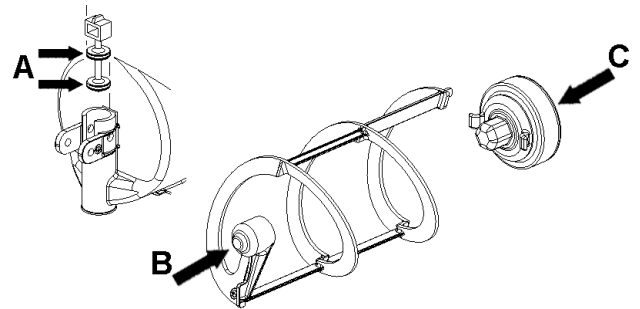

figure 11
- 2** Lubricate faucet piston, outer spiral and outside magnetic rotor (see points A, B and C of figure 11) only with the grease